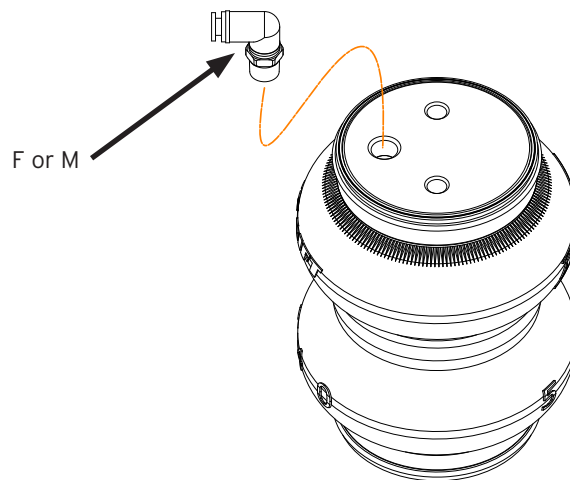

Fig. 15
2. Apply thread sealant to the fitting threads. Tighten the fitting (F or M) into the air spring 1 3/4 turns beyond hand-tight (Fig. 15).